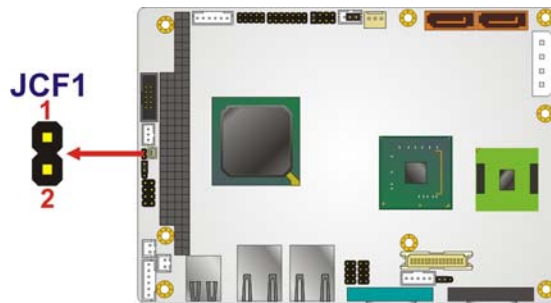

Figure 4-3: CF Card Setup Jumper Location
- Jumper Location:** See **Figure 4-3**